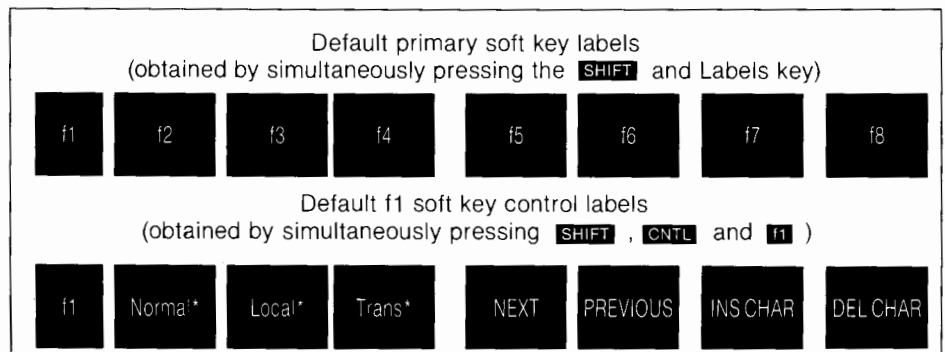

Figure 4-10. Soft Key Labels
To define the soft keys from the keyboard, simultaneously press the  and Labels key; the Labels key is the unmarked key at the right-hand side of the keyboard. This causes the primary soft key labels to be displayed at the bottom of the display. The default labels are shown in Figure 4-10.
- 1) The soft key control labels displayed at the bottom of the screen, see Figure 4-10.